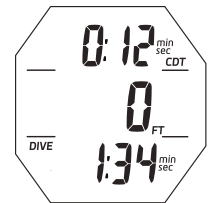

Fig. 63 - DIVE MAIN (on surface < BDSI set)
- > Current Depth with FT (or M) icon. 0 FT (0.0 M) when on the surface during the BDSI time set (Fig. 63).